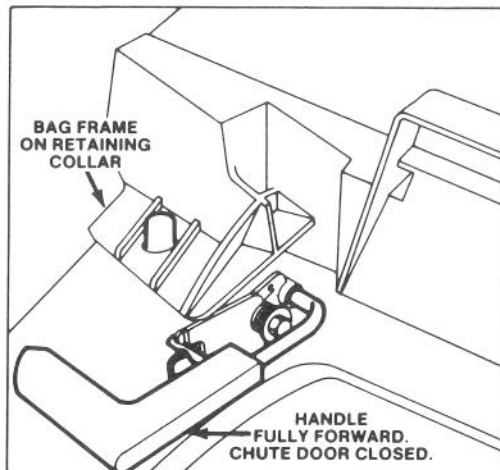

Figure 4
**MULCH** — In summer, when grass grows slower and is drier, mulch by closing chute door (Fig. 4). For convenience and protection, keep grass bag on mower.